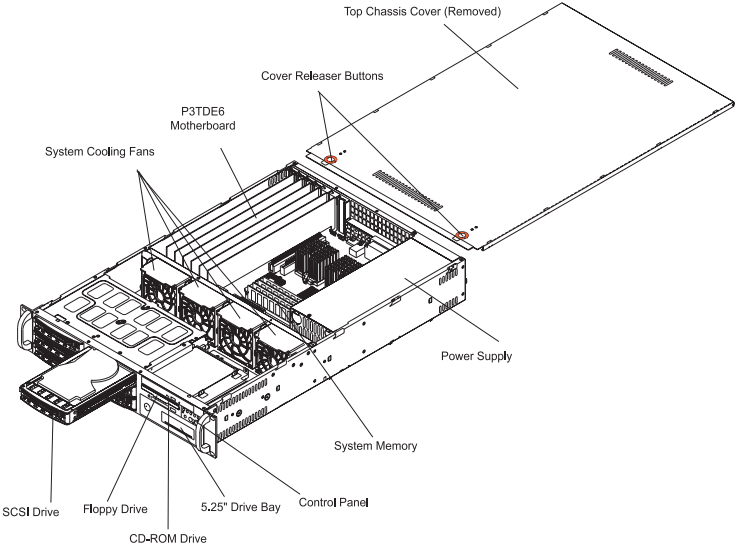

Figure 2-5. Accessing the Inside of the SuperServer 6021F (with one SCSI Drive removed)
1. Accessing the inside of the 6021F (see Figure 2-5):